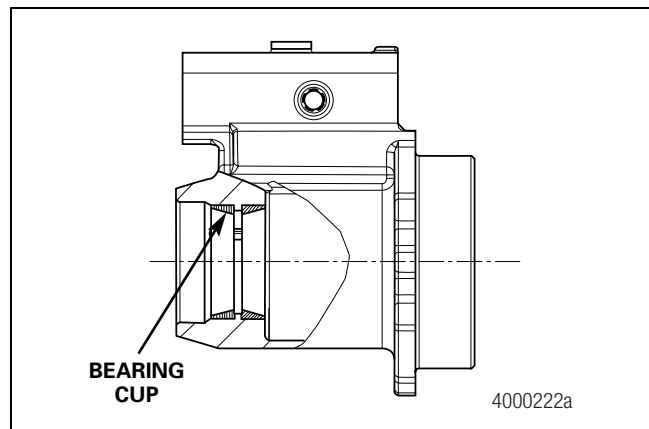

Figure 7.8
- A. Install the bearing cups into the PTO bearing cage housing. This is an interference fit. Freeze the bearing to -65° F (-54° C) and position the two cups into the housing bores. Figure 7.8.